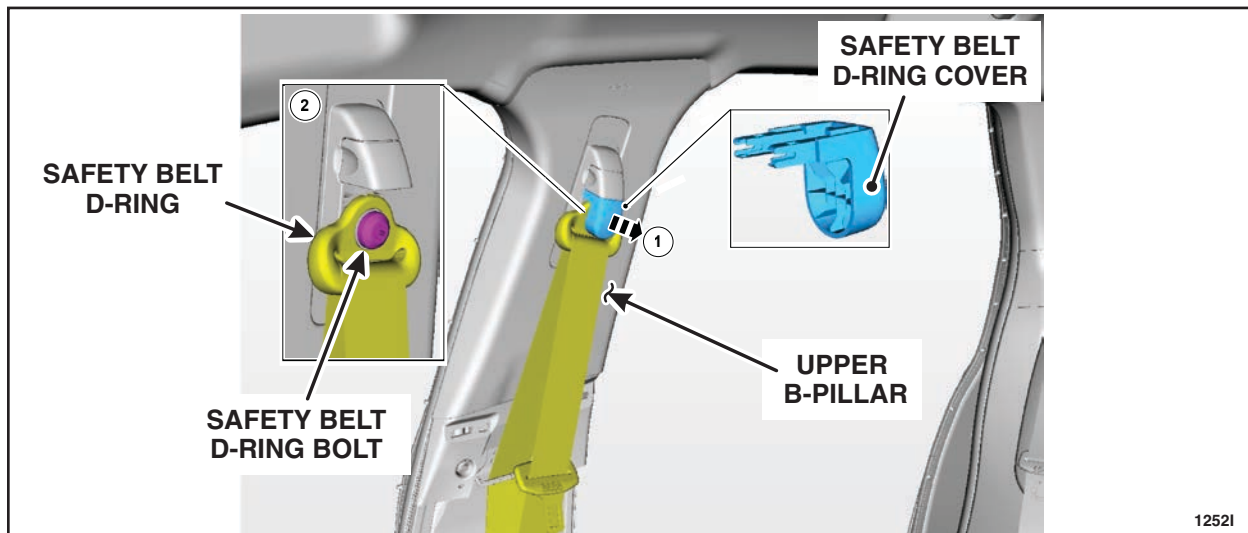

FIGURE 7
12. Remove the safety belt D-ring cover and bolt from the RH and LH upper B-pillar. See Figure 7.